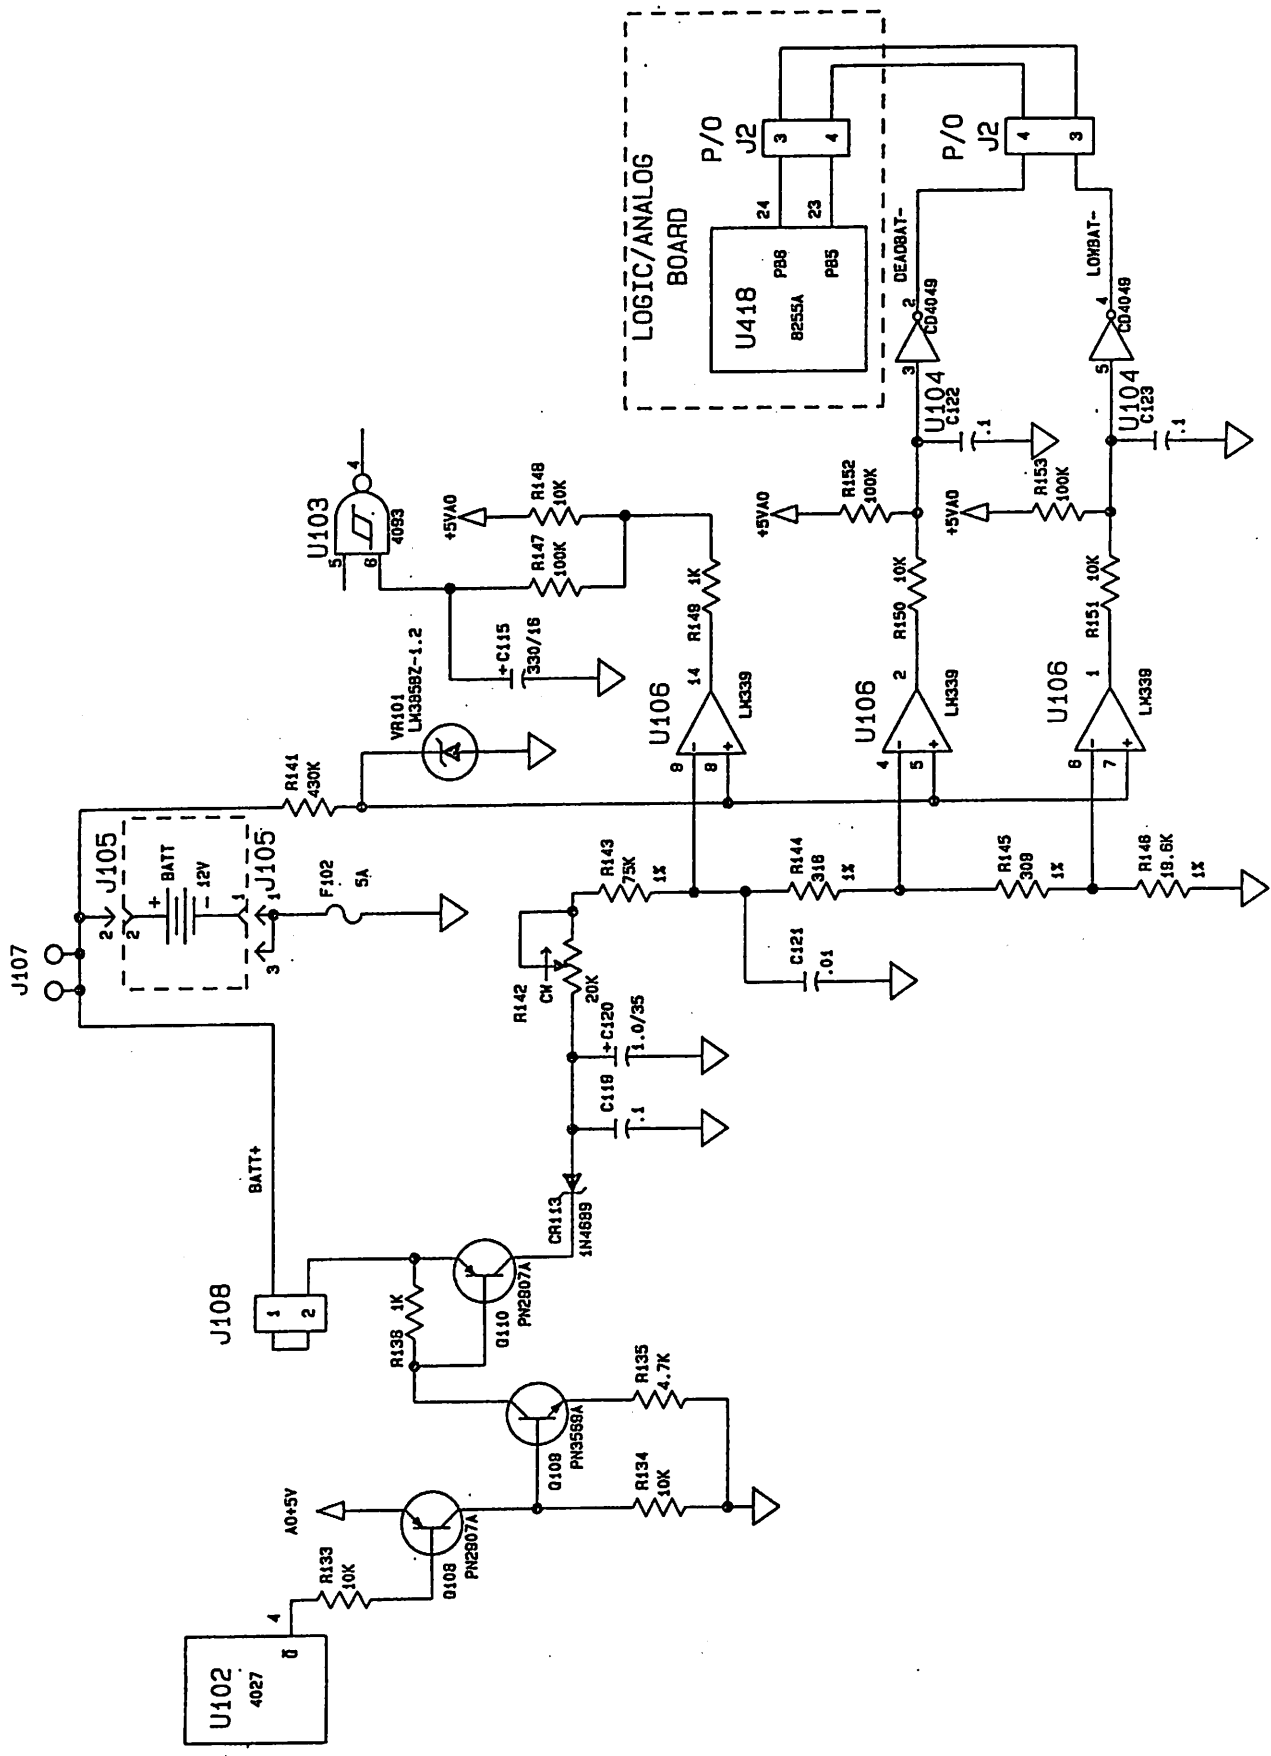

Figure 3-27. Battery Status Monitor
3.9.5 Battery Status Monitor (figure 3-27)
The LO \bar{Q} output of U102 is applied through R133 to Q108, turning it on, which then turns on Q109 and Q110 to apply battery voltage to the battery status comparators, U106 pins 1, 2, and 14, through the divider chain CR113, R142, R143, R144, R145, and R146. The battery status circuitry is described in section 3.9.5 (figure 3-27).